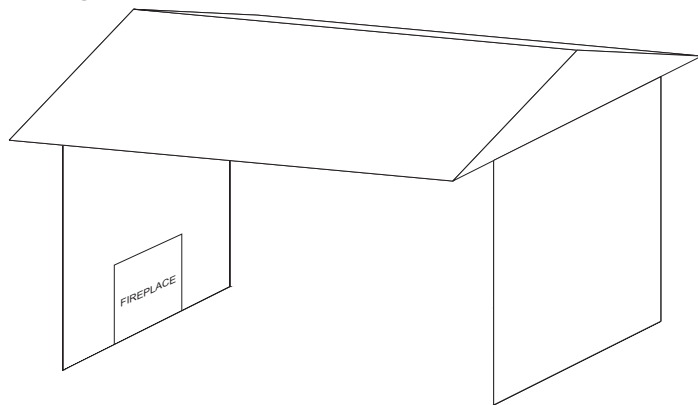

Figure 11
- Within a partial enclosure with an overhead cover and no more than two side walls. These side walls may be parallel, as in a breezeway or at right angles to each side. **See Figure 11.**